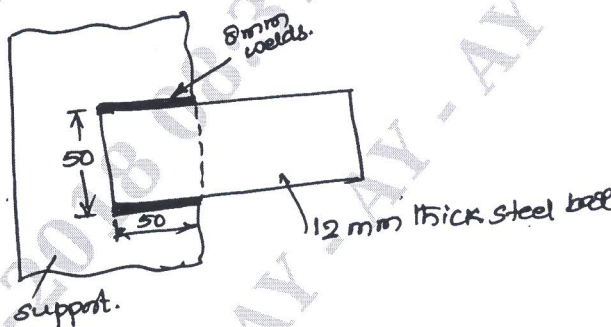

Fig Q7(b)
- b. The Fig Q7(b) shows as horizontal steel bar 12mm thick, loaded in tension and welded to a vertical support. Find the load p that will induce a shear stress of 60MPa in the welds. (10 Marks)